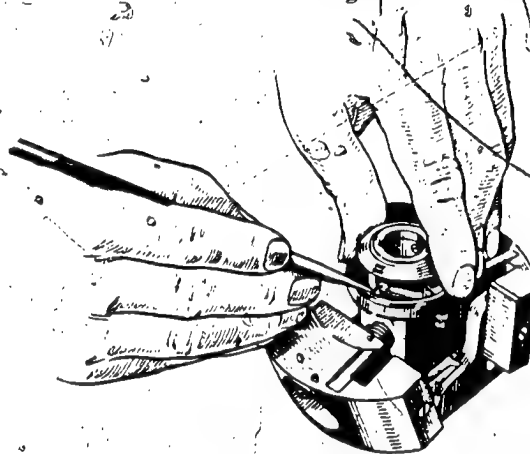

Fig. 8 Inserting the driver
6. Check that the axial play measures from 0.05 to 0.1 mm, so that the flyweight assembly turns readily with camshaft arrested; otherwise, change compensating washers (27).
7. Detach the flyweight assembly from the camshaft, and insert rubber buffers into the recesses of the articulation piece. Mount driver complete with previously oiled lubricating wick. Lift rubber buffers with the aid of a scriber at the lugs of the driver (see Fig. 8). Press driver home with the aid of a rubber mallet.
8. Push the flyweight assembly complete with vibration damper on to the camshaft, insert lock washer (28); place compensating washers (27) on the round nut (29) which is then tightened with a spanner. Bear in mind hints in brackets at the end of par. 5.
9. After mounting guide bush (3) tighten both fixing screws temporarily.